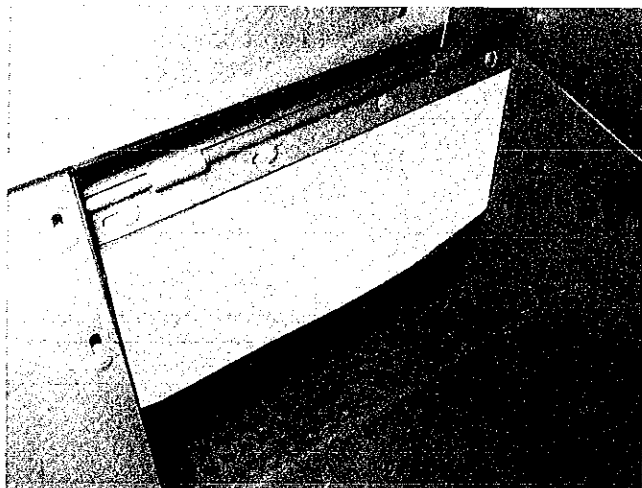

Figure 8 — Hopper Area
14. Install angle, flap and plate, Item 19, page 17, with 4 each $\frac{1}{4}$ x $\frac{3}{4}$ slotted truss head screws, flat washers, lock washers, and hex nuts. Install this flap assembly into Item 23, page 17, and sheller housing with rod, Item 14, page 17. Secure with a $\frac{5}{16}$ flat washer and $\frac{3}{32}$ x 1 cotter pin on each end of the rod. See Figures 8 and 9.
23. Attach 4 inch elbow, Item 39, page 19, to elbow, Item 41, page 19, with 8 inch piece of wire. Install wire piece thru tabs in elbows in a figure 8 pattern and twist securely.